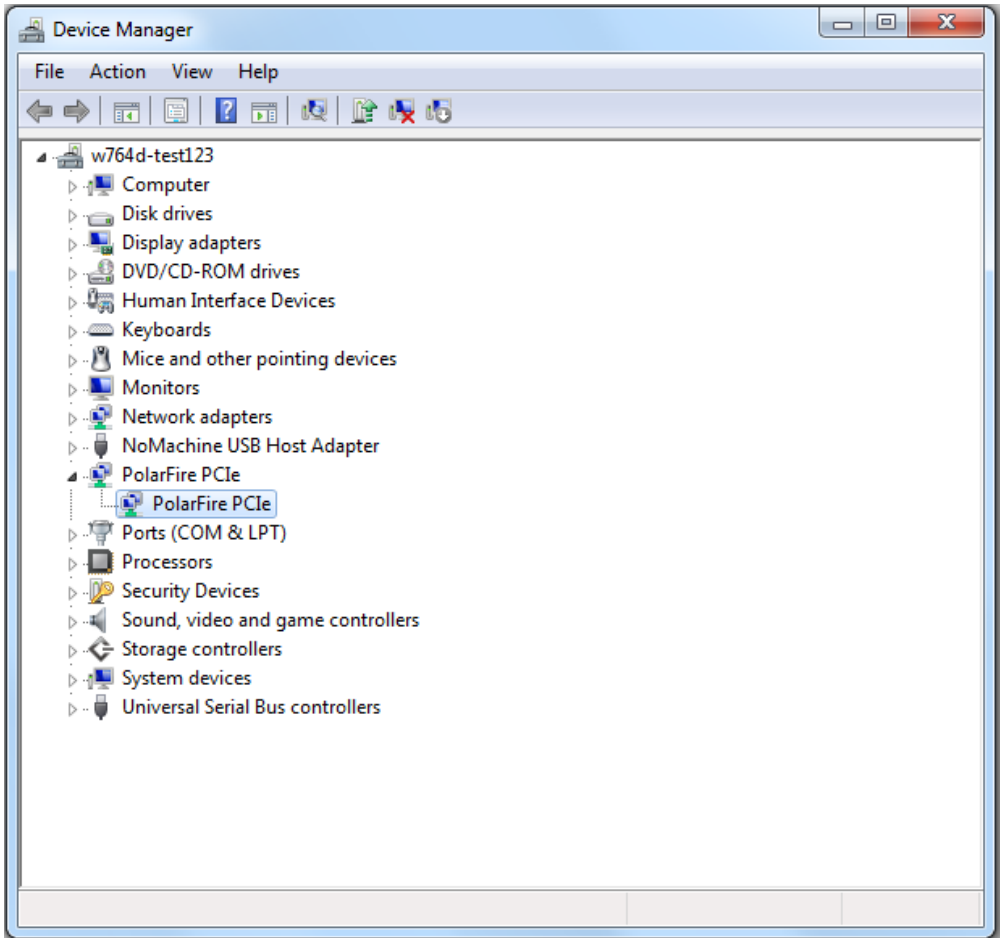

Figure 30: Device Manager - PolarFire PCIe device detected
1. Click to expand the **PolarFire PCIe** device in the host PC **Device Manager** as shown in Figure 30.